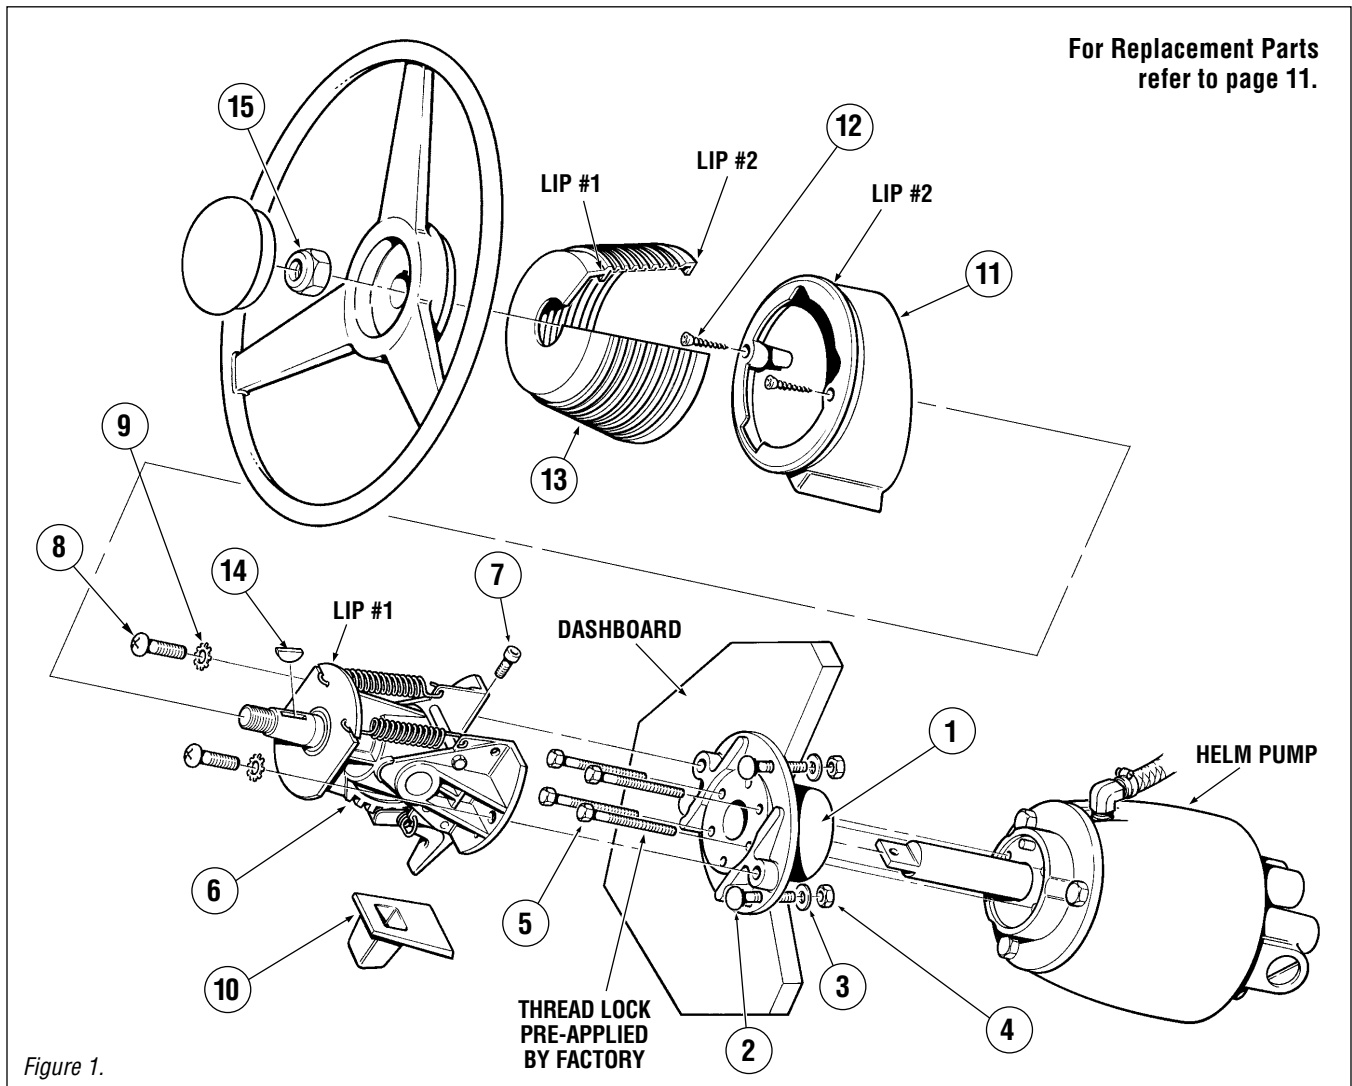

Figure 1.
STEP 10. Install boot cover (Item 13) over lip 1 of the tilt mechanism and around lip 2 of the lower bezel (shown in Figure 1).